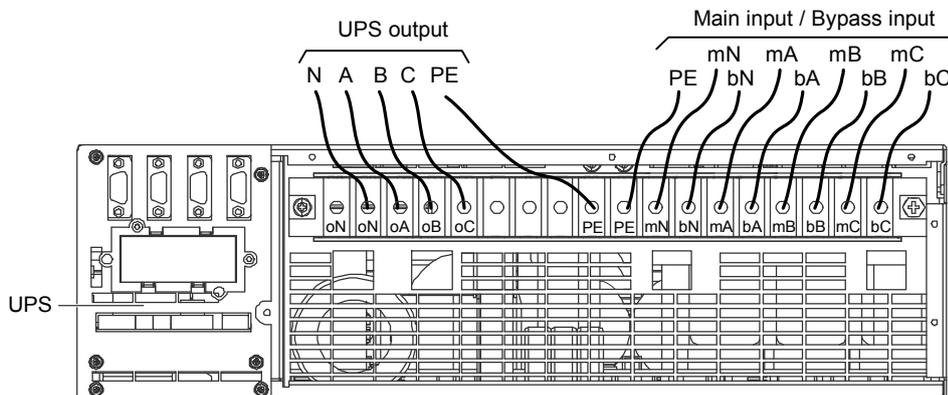

Figure 2-17 3-in 3-out, split-bypass configuration cable connection
7. Connect the live lines (output phase A, output phase B and output phase C), N line and PE line respectively to the I/O terminal block (oA, oB, oC, oN and PE terminals) of the UPS, as shown in Figure 2-17.